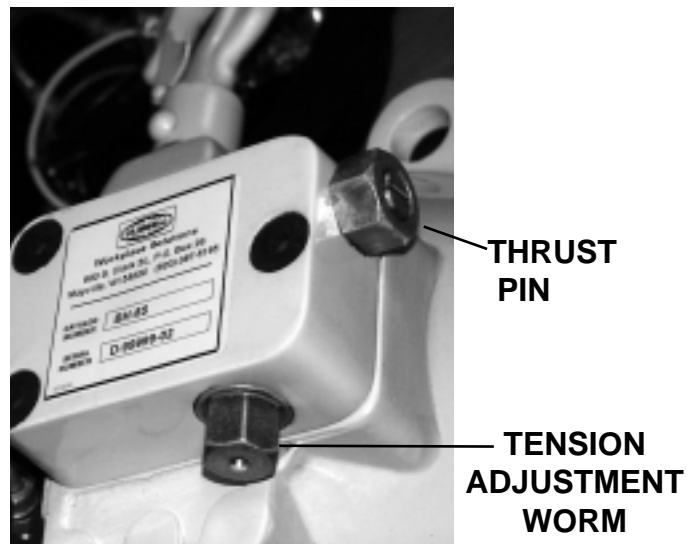

Figure 2
1. Tension is adjusted by turning the hex drive on the housing at the rear of the balancer (Fig 2). To increase tension, turn the hex drive in a clockwise direction. To decrease tension, turn hex drive counter-clockwise.
Do not adjust thrust pin (Fig 2). The thrust pin holds the tension adjustment worm in place and has been factory adjusted.